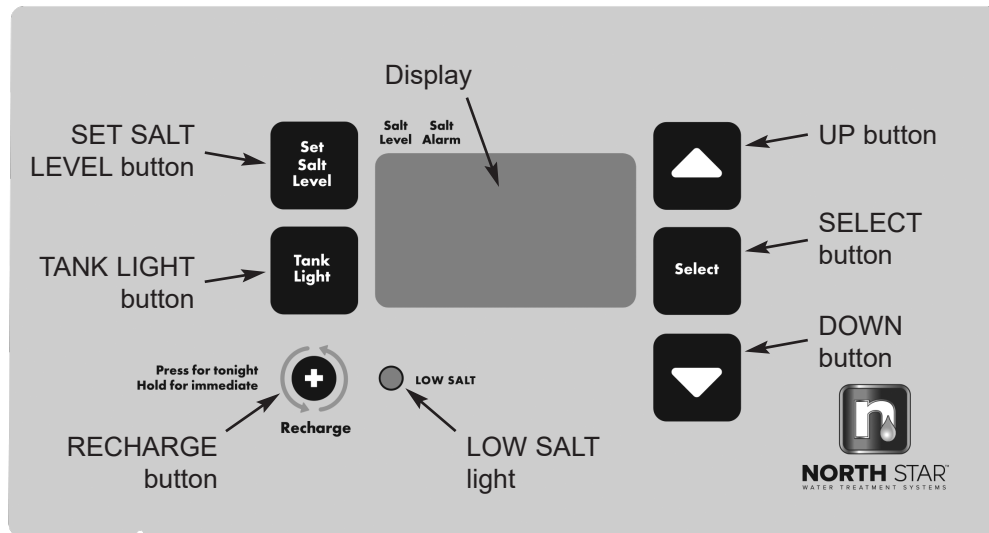

FIG. 16
5. Initiate a regeneration by pressing and holding for 3 seconds the RECHARGE button (see Figure 16 on page 13). The valve motor will start running and the valve will advance to the “Fill” position.